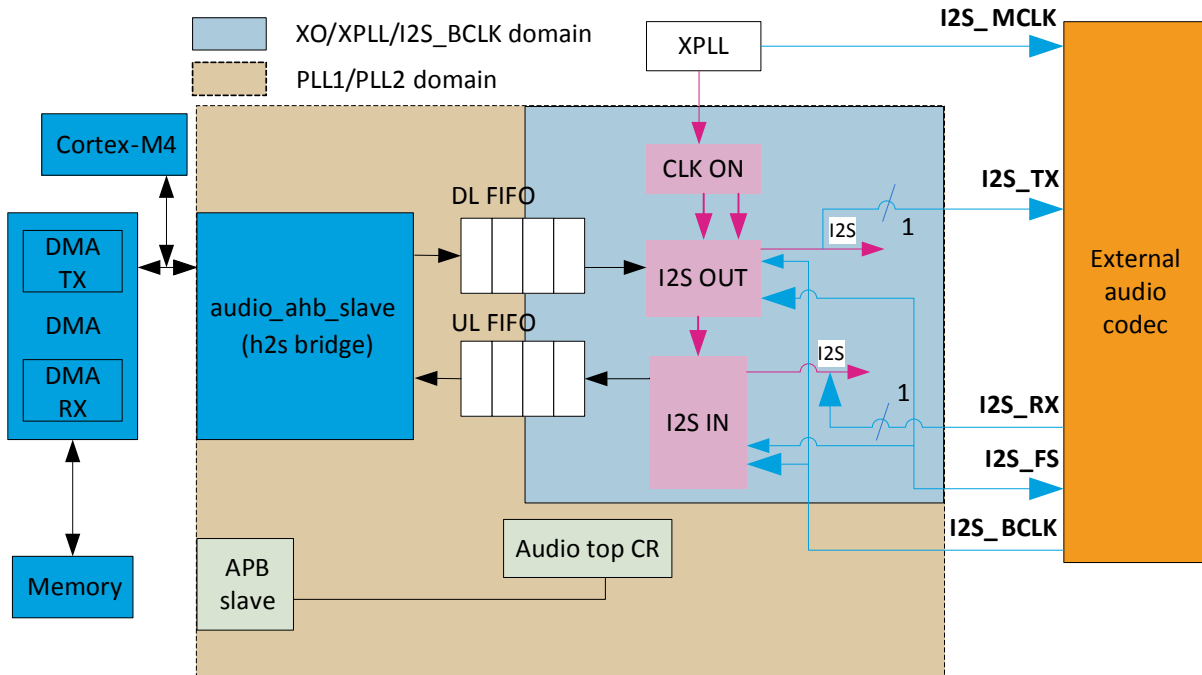

Figure 10.1-1. I2S block diagram
I2S0 is placed on AHB bus to support fast data transfers and has APB interface for setting the control register (CR). I2S0 contains CLK CON, I2S OUT, I2S IN, DL FIFO and ULFIFO. The block diagram is shown in Figure 10.1-1.